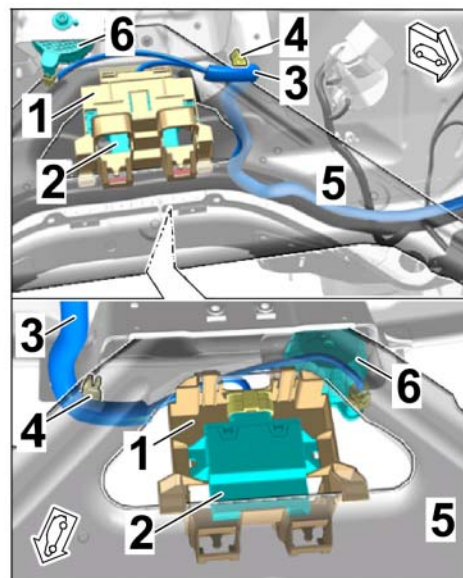

Figure 10
- 2.3 Remove standard engine noise control unit from control unit holder ( $\Rightarrow$  Figure 10).
- 2.5 Install the holder with the engine noise control unit to the strut brace (plenum panel area  $\Rightarrow$  Figure 10).